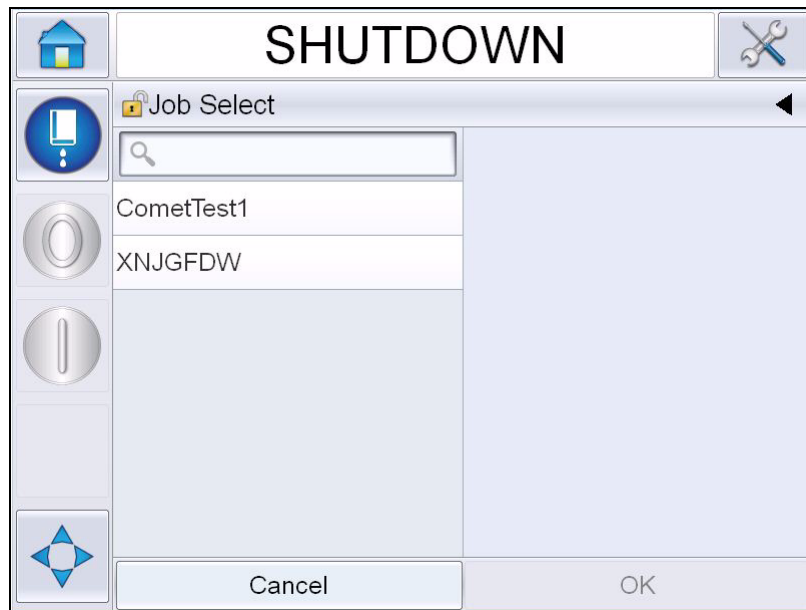

Figure 4-25: Job Select
- 2 A list of available messages appears (see Figure 4-25).